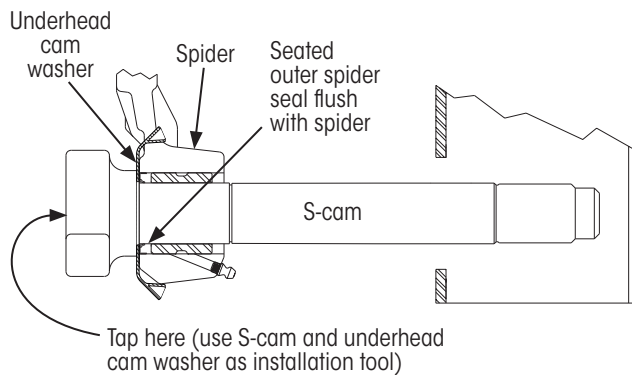

Figure 22: Outer spider seal installation technique
5. **Seat** the outer spider seal (item 4, Figure 10) into the spider by tapping on the head of the S-cam with a hammer (Figure 22).